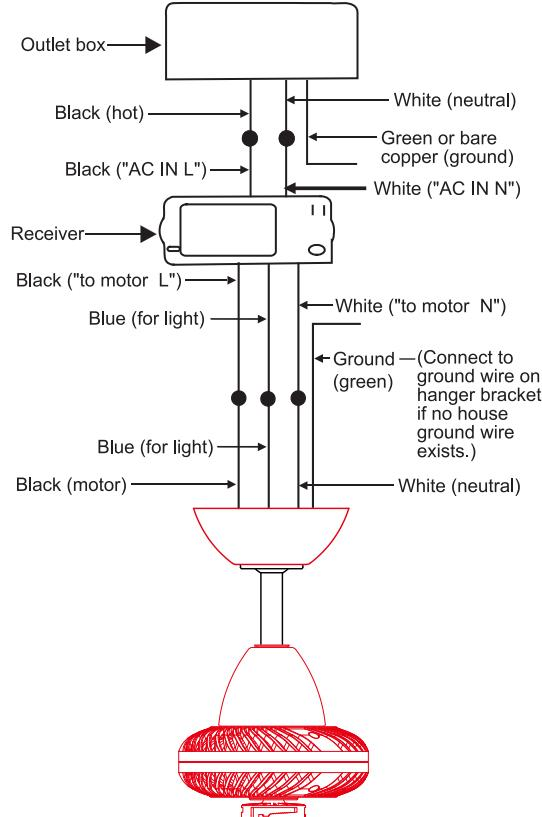

Fig. 13
Step 2. Motor to Receiver Electrical Connections: (Fig. 13) Connect the black wire from the fan to the black wire marked "TO MOTOR L" on the receiver. Connect the white wire from the fan to the white wire marked "TO MOTOR N" on the receiver. Connect the blue wire from the fan to the blue wire marked "FOR LIGHT" on the receiver. Secure all the wire connections with the plastic wire nuts provided.
Step 3. (Fig. 13) Receiver to House Supply Wires Electrical Connections: Connect the black (hot) wire from the ceiling to the black wire marked "AC IN L" from the receiver. Connect the white(neutral) wire from the ceiling to the white wire marked "AC IN N" from the Receiver. Secure the wire connections with the plastic wire nuts provided.
Step 4.(Fig.13) If your outlet box has a ground wire (green or bare copper) connect it to the fan ground wires; otherwise connect the hanging bracket ground wire to the mounting bracket. Secure the wire connection with a plastic nut provided. After connecting the wires, spread them apart so that the green and white wires are on one side of the outlet box and black and blue wires are on the other side. Carefully tuck the wire connections up into the outlet box.